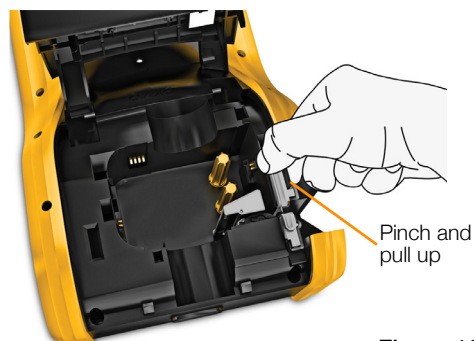

Figure 13
- 3 Pinch the release lever on the outside of the cutter blade and pull the cutter blade straight up to remove. See Figure 13.